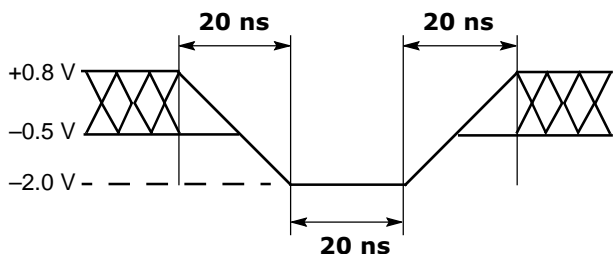
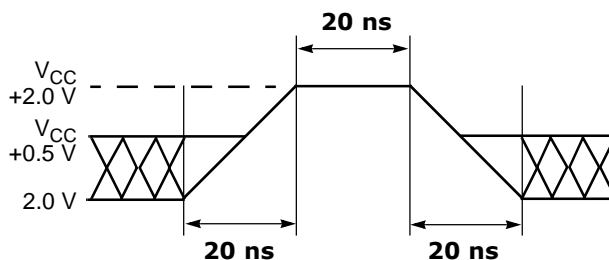

Figure 2. Maximum Negative Overshoot Waveform
Figure 3. Maximum Positive Overshoot Waveform
1. Minimum DC voltage on input or I/O pins is -0.5 V. During voltage transitions, input or I/O pins may undershoot V_{SS} to -2.0 V for periods of up to 20 ns. See Figure 2. Maximum DC voltage on input or I/O pins is $V_{CC} + 0.5$ V. During voltage transitions, input or I/O pins may overshoot to $V_{CC} + 2.0$ V for periods up to 20 ns. See Figure 3.
2. Minimum DC input voltage on pins A9, OE#, and RESET# is -0.5 V. During voltage transitions, A9, OE#, and RESET# may undershoot V_{SS} to -2.0 V for periods of up to 20 ns. See Figure 2. Maximum DC input voltage on pin A9 is +12.5 V which may overshoot to 14.0 V for periods up to 20 ns.